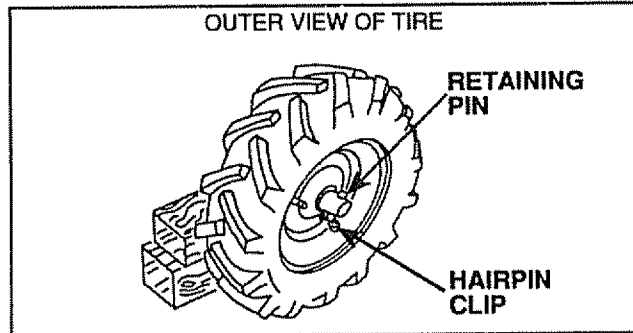

FIGURE 19
- Place blocks under right hand side of Tiller and remove Hairpin Clip and Retainer Pin from right hand Wheel (Fig. 19).